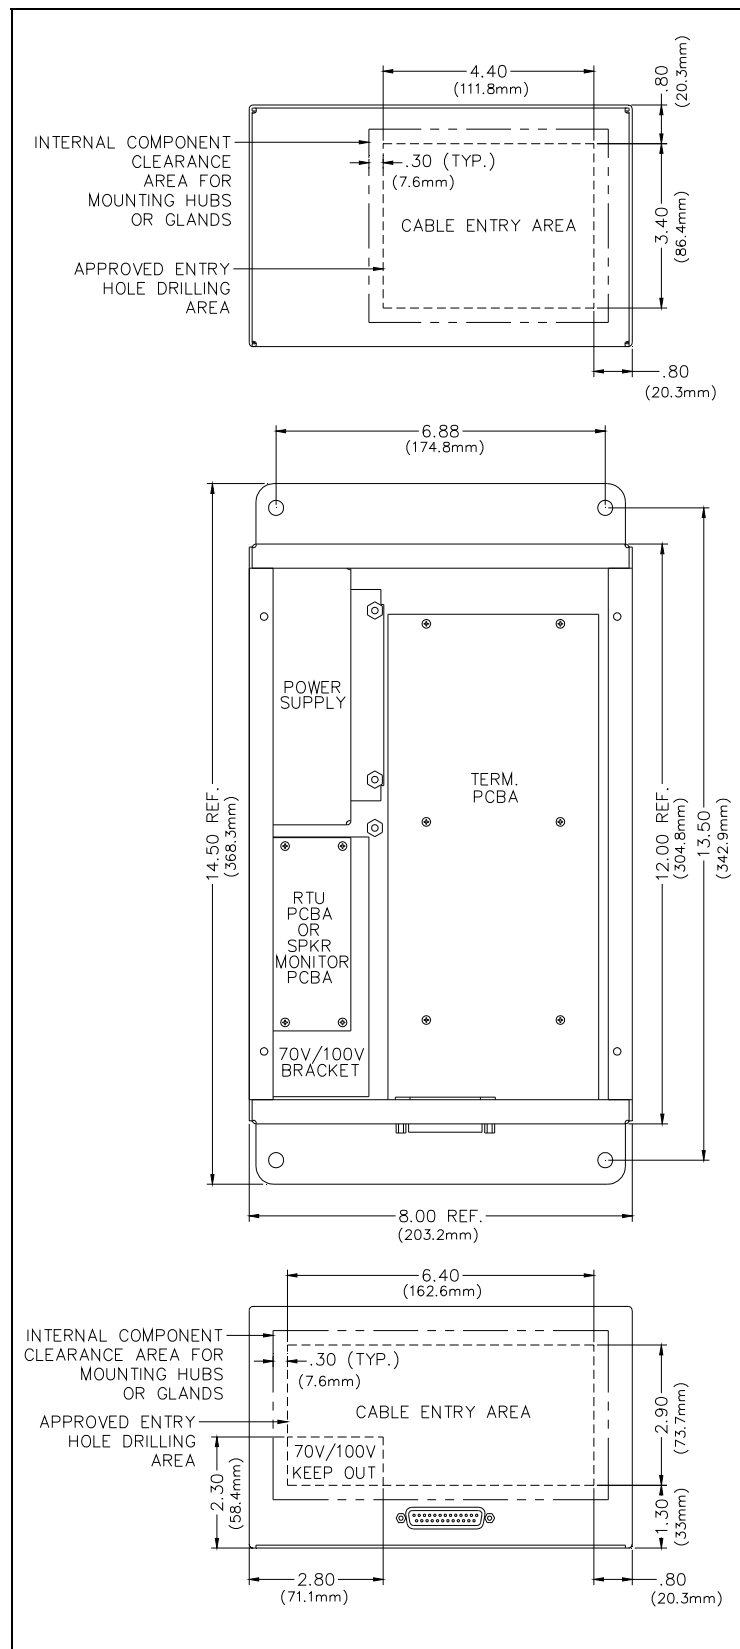

Figure 3. Suggested Wire Entry Locations
- The station is suitable for top or bottom entry (see Figure 3)
NOTE: ICS Page/Party® stations with the 70V/100V speaker output option installed have limited wire entry space on the bottom left side of the enclosure (see Figure 3).